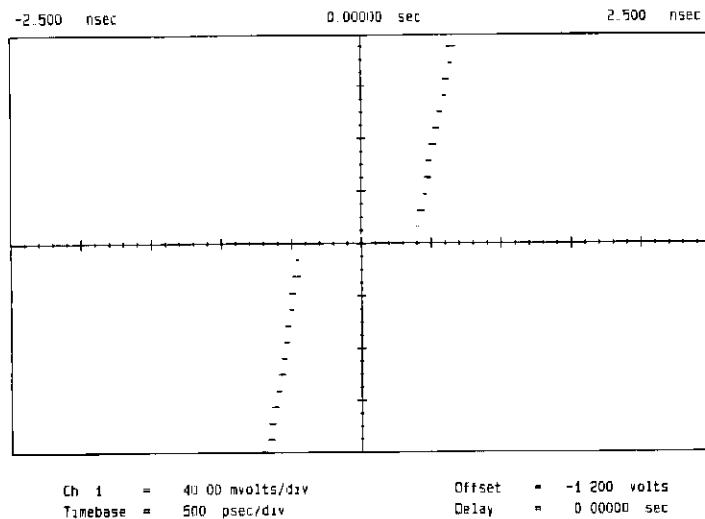

Figure 3-4. Area of discontinuity centered and expanded.
8. Using channel 1 Vertical Magnify Mode menu, center the window and expand to 40 mV/division (Window size = 320 mV) Refer to figure 3-4.